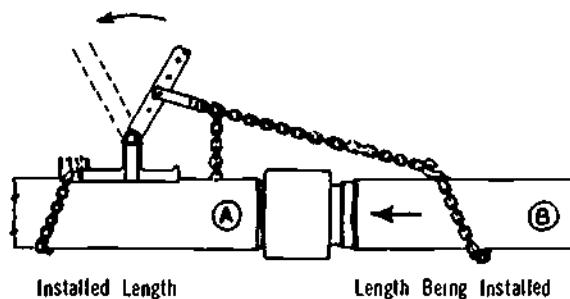

Figure 5-4. Lever Puller
j) The lever-puller method, as illustrated in Figure 5-4, is also used to assemble pipe and fittings. The lever puller is chained to the installed pipe as shown in A, and the pulling chain is then wrapped around length B that is being installed. Then, by pushing the handle forward, the pulling chain is connected to the handle assembly. By pulling back on the handle, pipe B is drawn into the coupling on pipe A.